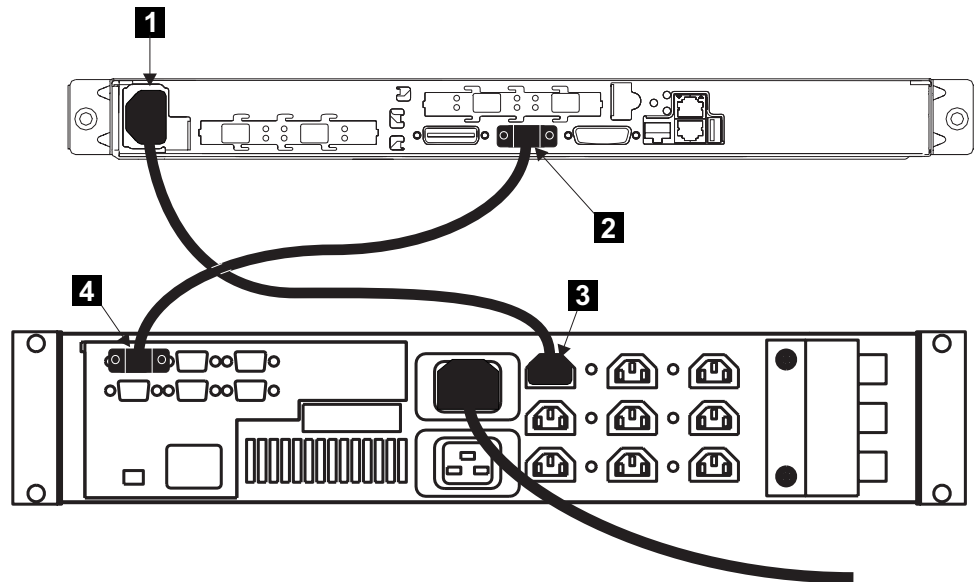

Figure 50. Connecting the SAN Volume Controller 2145-4F2 power cable to the 2145 UPS
1. At the back of the SAN Volume Controller 2145-4F2, plug a power cable into the power connector **1**. See Figure 50 on page 73.